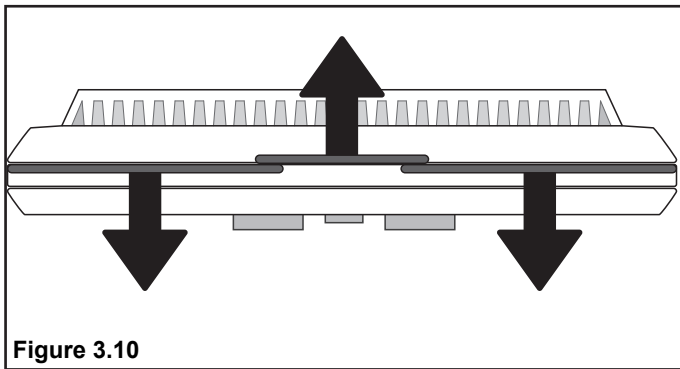

Figure 3.10
1. Separate the body of the thermostat from the mounting plate by gently pulling the two pieces apart. See Figure 3.10.